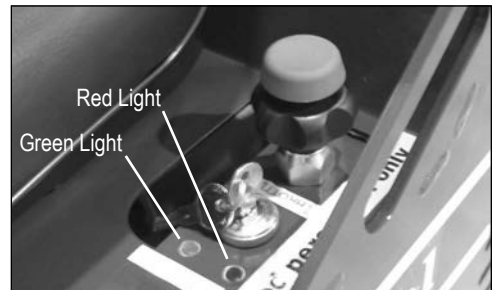

FIG. 6.1
5. Start machine with ignition switch. Both a red and green light will illuminate (Figure 6.1). Do not hold in the “on” position for more than five seconds.